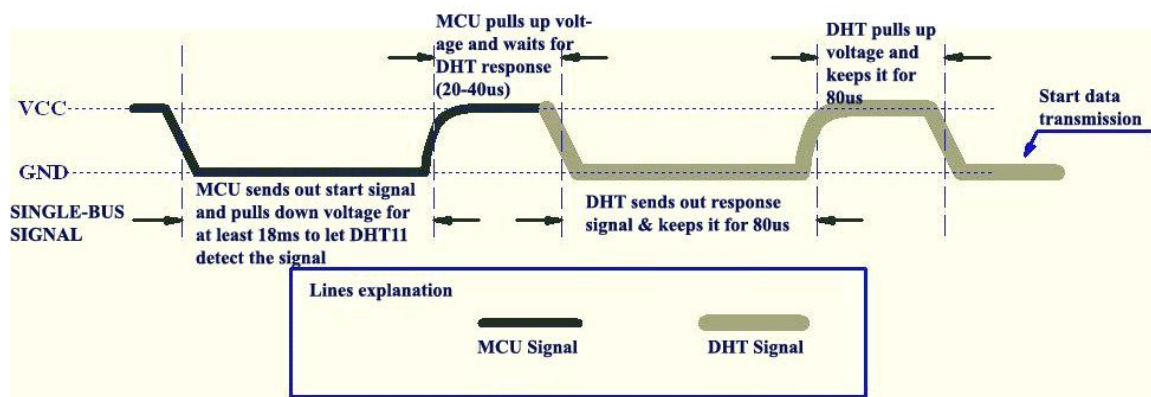

Figure 3 MCU Sends out Start Signal & DHT Responses
5.2 MCU Sends out Start Signal to DHT (Figure 3, below)
5.3 DHT Responses to MCU (Figure 3, above)